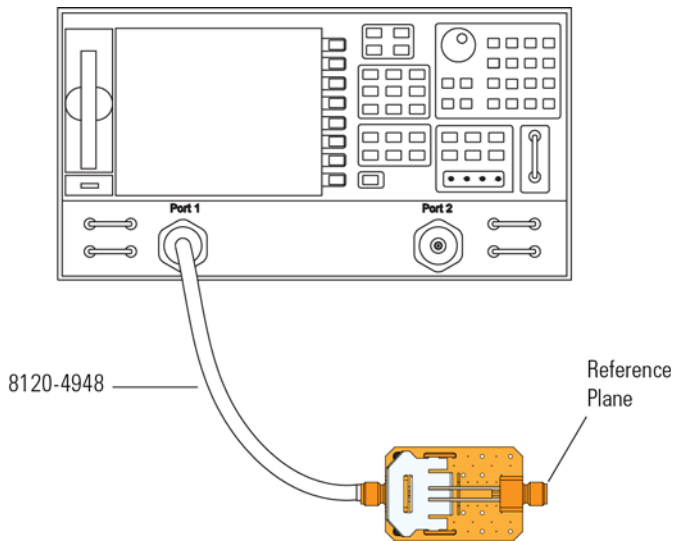

Figure 169 PV/DS Test Board Connected to VNA
- 10 Connect one of the high quality SMA cables to port one and to the pincher side of PV/DS test board as shown in Figure 169 on page 201.